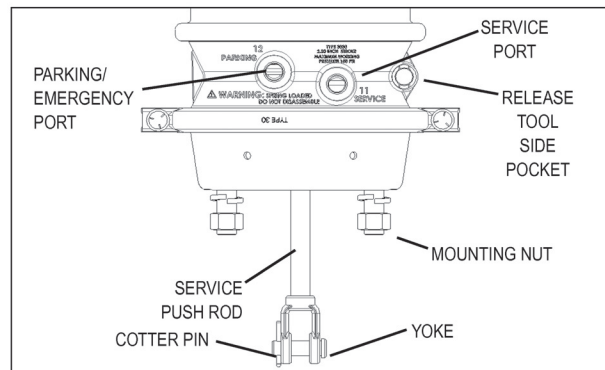

FIGURE 2 - SPRING BRAKE EXTERNAL VIEW
3.1.1 See Figure 2. Consult the slack adjuster manufacturer's specifications and check that the push rod travel is permissible. Excessive push rod travel reduces braking efficiency, shortens diaphragm life, gives slow braking response, and wastes air.